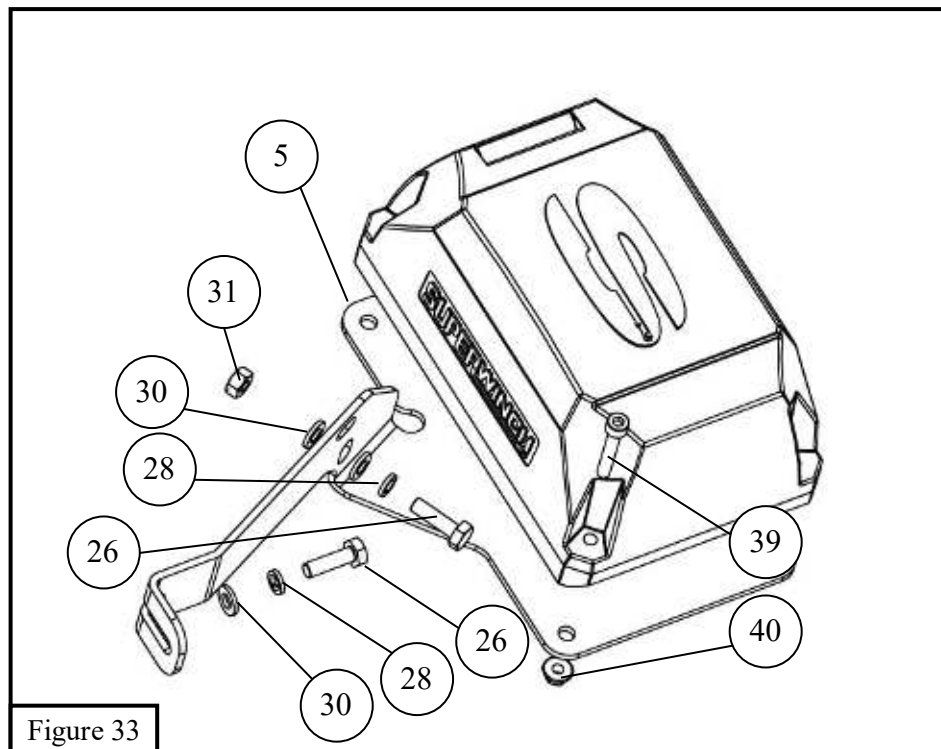

Figure 33
62. Attach the control box to the control box bracket (**item 5**) using the M5 hardware (**items 39 and 40**). See **Figure 33**.